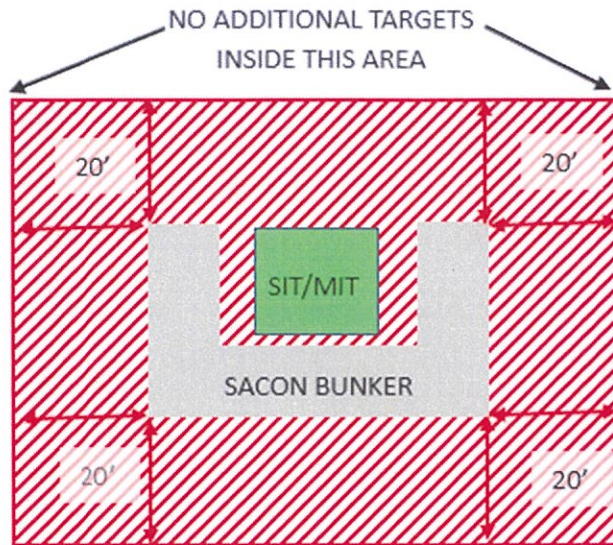

Figure-5
- 6 lanes consisting of (30) SITS and (12) MITS protected by SACON concrete bunkers. These targets are battery-operated, and Contractor controlled.
- Use of any additional targets on this half of the range requires authorization from the IRSO and must comply with the restrictions in Figure-5 so splash/spalling do not damage the target systems.
- Any additional targets must be placed according to Figure-5 and are limited to paper, wood, plastic, and approved steel reactive targets (SRT) only.
-Contact Training Support Center (TSC) at (703)432-7026/7969 for target support or questions.